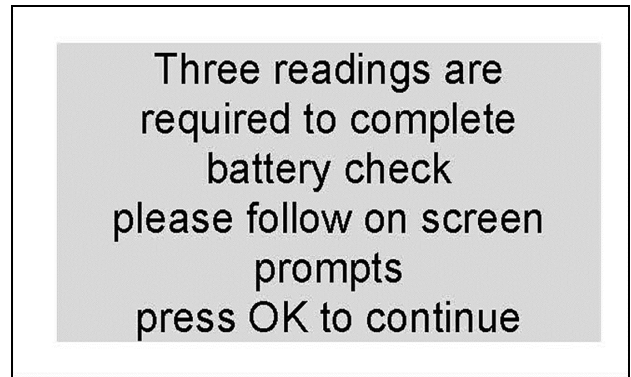

Figure 5
6. When Figure 5 is displayed, read the on-screen message and then press OK.